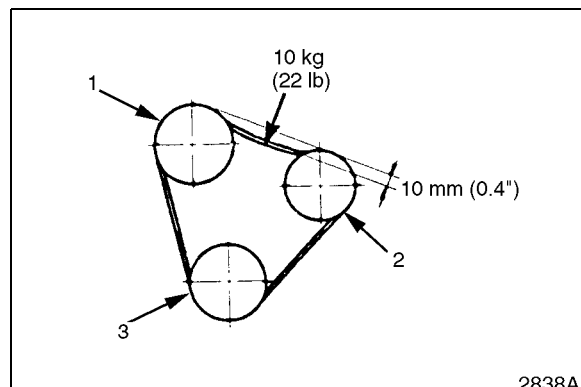

Figure 51
NOTE: Apply 10 kg (22 lb) of force to the midpoint of fan belt. (Figure 51). The fan belt should deflect 10 mm (0.4"). If belt deflects more than this, loosen control link and move idler pulley (2) to tighten belt tension until deflection is 10 mm (0.4"). Inspect fan belt for damage. If belt is damaged, replace it.